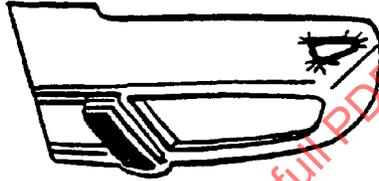

FIGURE A1—PLASTIC BUMPER COVER DAMAGE
A.2.1 Preparation—Cosmetic damage to plastic parts like bumper covers is very common. The puncture in Figure A1 has penetrated the cover causing several deep scratches and gouges. The following are general repair procedures that should be used for cosmetic or nonstructural damage.